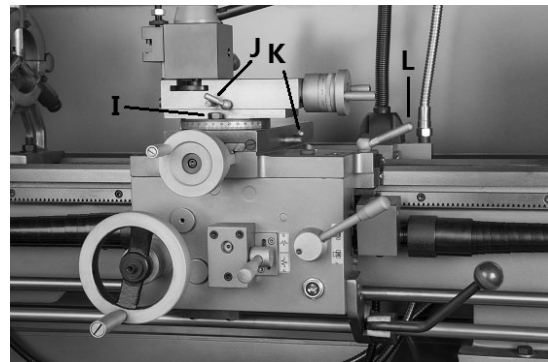

Figure 9-3
17. **Compound Rest Lock** (I, Figure 9-3) – Turn hex nut clockwise to lock and counterclockwise to unlock.